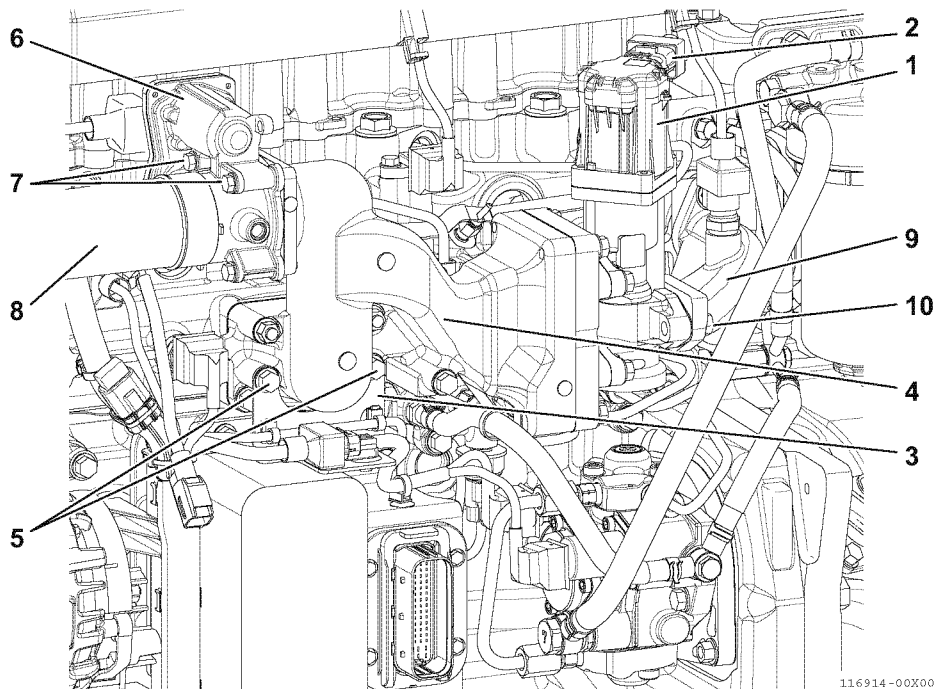

Fig.50-9
- 1 - Remove the harness connector (2, Fig.50-9) of the EGR valve (1, Fig.50-9).
- 2 - Remove the two bolts (5, Fig.50-9) which mount the harness clip bracket (3, Fig.50-9) to the intake collector (4, Fig.50-9), then pull the bracket together with the harness, and put them aside.
- 3 - Remove the four bolts (7, Fig.50-9) which mount the intake collector and intake air throttle valve (6, Fig.50-9). Leave the intake hose (8, Fig.50-9) from the turbocharger connected to the intake air throttle valve.
- 4 - Remove the four bolts (10, Fig.50-9) which mount the EGR valve and EGR pipe (9, Fig.50-9).